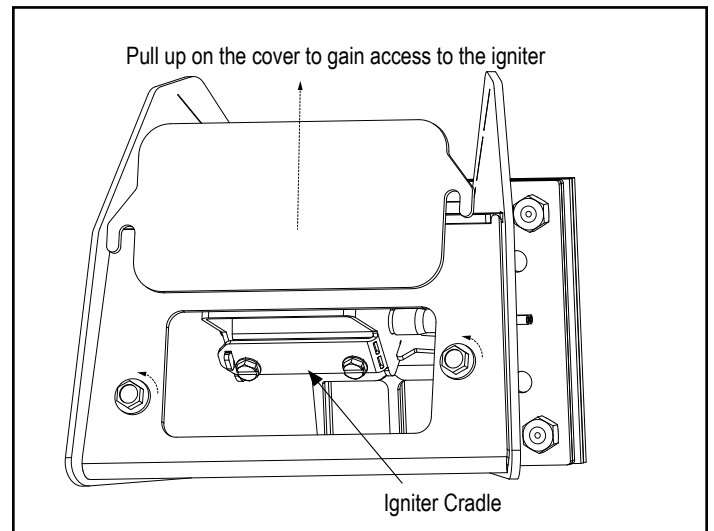

Figure 2.4 - Viewed from below through the ash pan opening.
- Loosen (2) 1/4-20 Flange Bolts and pull up on cover and remove to gain access to igniter element and cradle. Figure 2.4.
- Using the brush supplied, brush the igniter element free of any ash or debris. Figure 2.4.